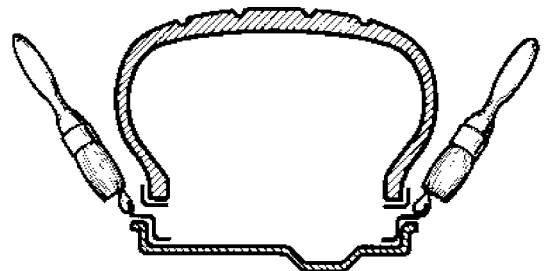

Fig.44
4. Lubricate both beads and the rim surface (fig.44).